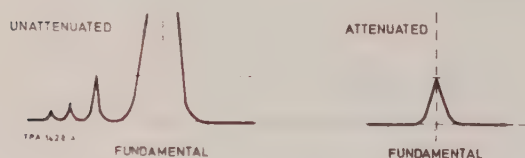

Fig. 5.25 Display for harmonic distortion check
(6) The method is to apply a c.w. signal as an external marker and display it so that the harmonics are visible as in Fig. 5.25. Note the level of the largest harmonic, then reduce the fundamental to this level by using the output attenuators. The amount of attenuation inserted will give the distortion level in dB: the requirement is for a distortion level at least 40 dB down at all frequencies.